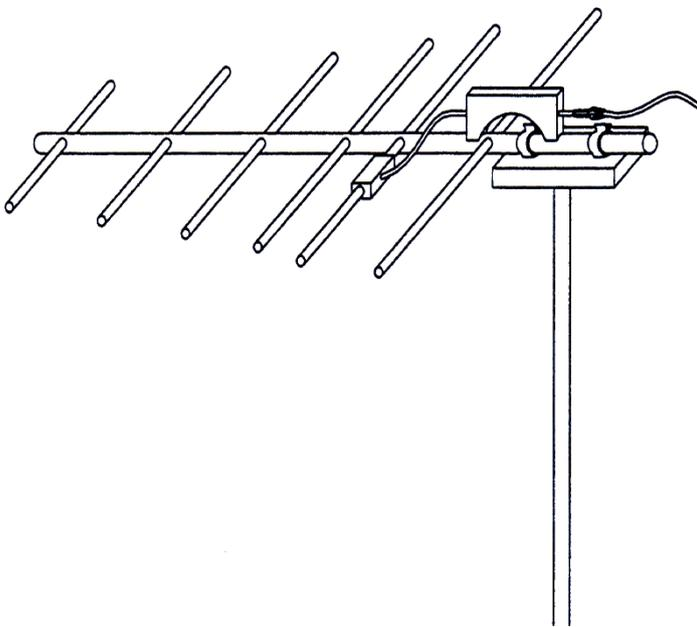

Figure 3. Set up of the horizontally polarised Yagi antenna.
2. Place the antenna mast with horizontal clips on the transmission support and clip the Yagi antenna onto it. Orient the elements so they are horizontal as shown in Figure 3. The transmission antenna is then horizontally polarised.